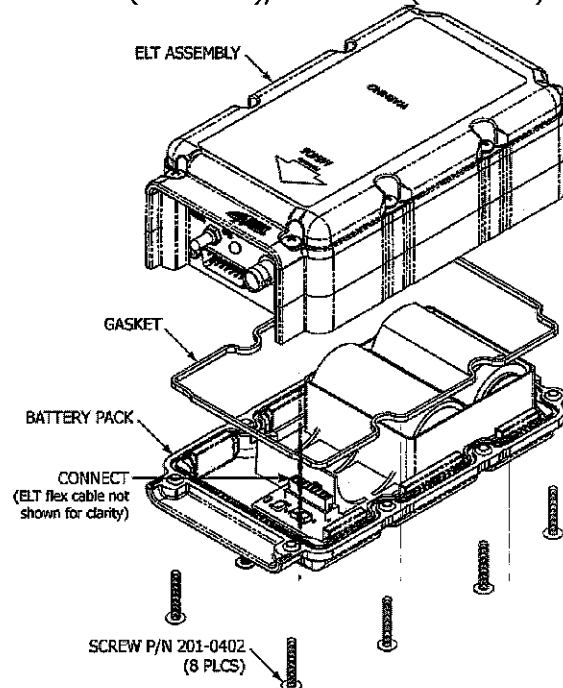

Figure 26 Battery Pack Installation
- 2) See Figure 26 Battery Pack Installation.